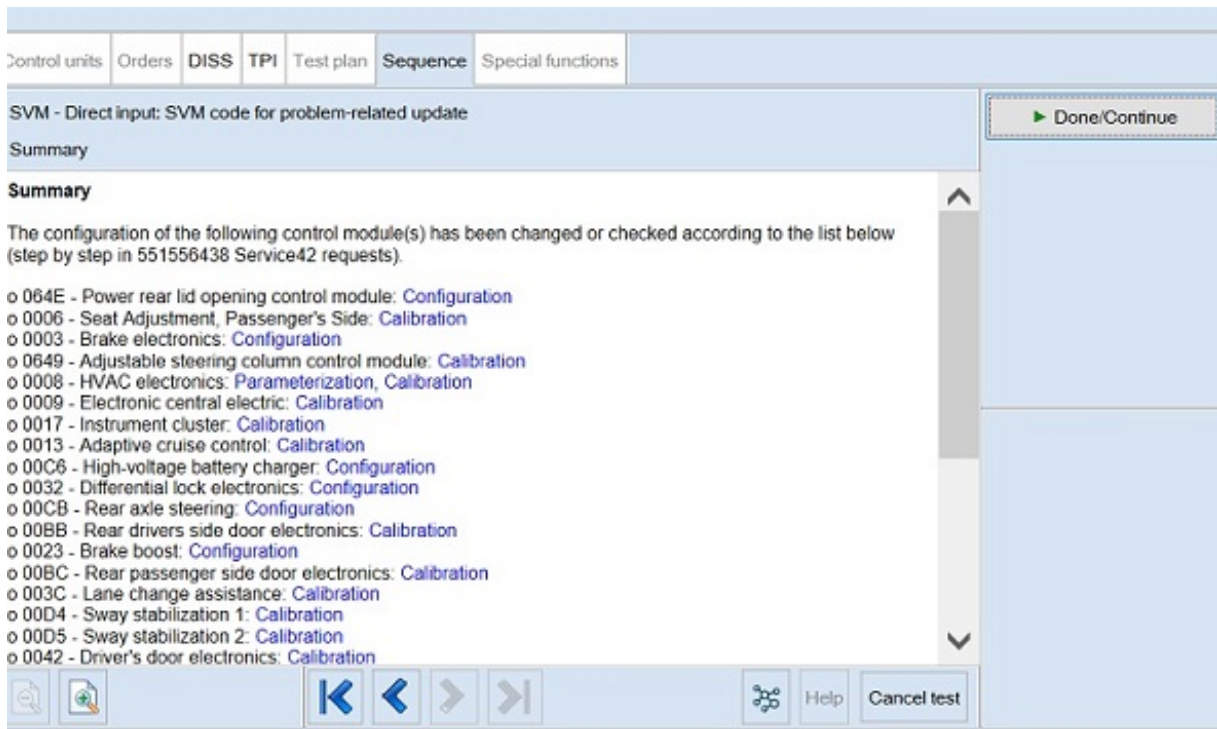

Fig 3
9. If you are presented with this screen (Fig 3) at the end of the update, the update was successful. Please continue to step 11.